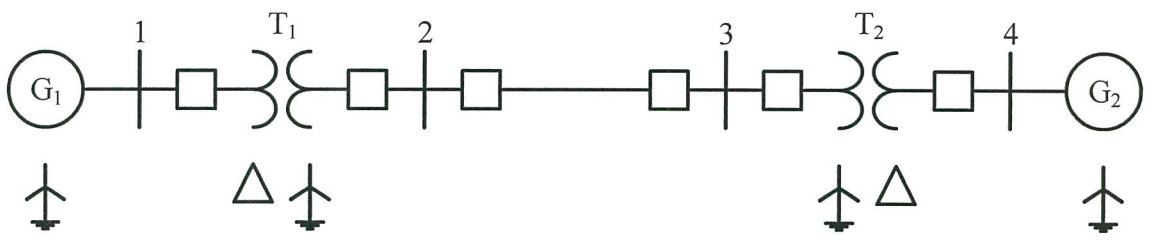

Figure Q2(a)
- Q2** (a) The reactance data for the power system, shown in **Figure Q2(a)** in per unit system, on a common base is tabulated in **Table Q2(a)**.
- (ii) State and discuss the **two (2)** main methods in analysing fault in power systems. (4 marks)